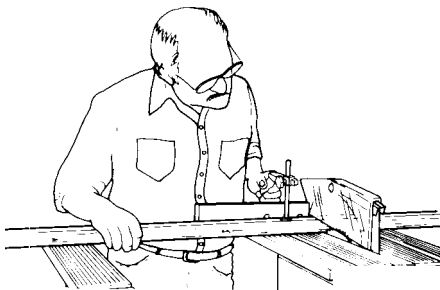

Figure C-2
7. Mount an extension table in the power or base mount located at either end of the Mark V. Use a miter gauge extension to help keep the stock square to the blade. Start by cutting long stock in the middle. This gets it down to a manageable length. See Figure C-2.